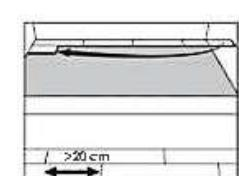

Figure 2
10. Begin the second row with the cut piece from the first row (**Figure 2**). If the cut piece is shorter than 20 cm (8 in), do not use it. Instead, begin with a new plank that is at least 20 cm in length and allows 20 cm between the end joints on the adjacent planks.